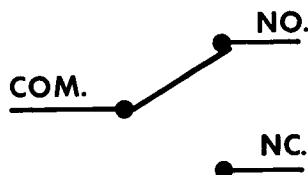

Figure 10 - Switch Connections with Plunger Actuated
and "NO" terminals per figure 10.
4. Remove 3 screws and lift off box cover and switch. See Figure 10.